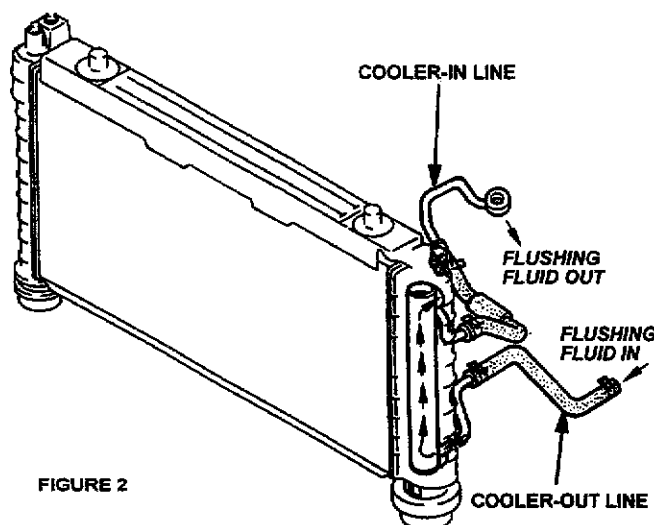

FIGURE 2
1. Using the Power Flushing Equipment manufacturer's instructions, connect equipment so the flushing fluid flows in the opposite direction of normal fluid flow. Refer to page 4 to determine normal fluid flow. See typical example of back flushing flow in **Figure 2**.